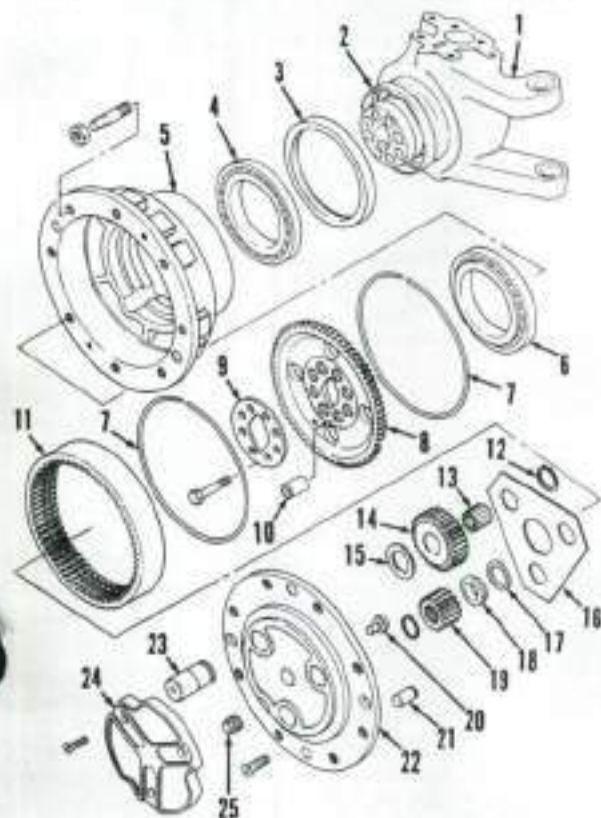

Fig. 31—Exploded view of final drive assembly used on Type 709/19 Carraro front drive axle.
drain plug from end plate and drain oil. Remove the two screws securing hub cover (22—Fig. 31) to hub housing (5). Pry cover loose and remove cover and planetary gears. Remove snap ring, sun gear (19), spacer (18) and washer (17). Remove bolts retaining planetary ring gear hub (8), then install four of the bolts into threaded holes in ring gear hub to remove ring gear. Remove outer bearing (6), then tap hub assembly (5) off swivel housing.
**39. PLANETARY GEARS.** To remove, raise and support front axle, then remove tire and wheel. Drain oil from wheel hub. Remove two screws securing cover (22—Fig. 31) to hub, then pry cover loose and remove cover and planetary gears.